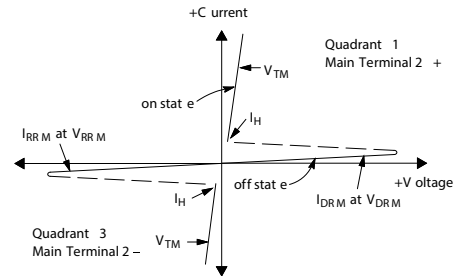

Figure 1. Peak Capacitor Discharge Current
- Ratings apply for $t_w = 1$ ms. See Figure 1 for I_{TM} capability for various duration of an exponentially decaying current waveform, t_w is defined as 5 time constants of an exponentially decaying current pulse.
- Ratings apply for $t_w = 1\text{ ms}$. See Figure 1 for I_{TM} capability for various durations of an exponentially decaying current waveform. t_w is defined as 5 time constants of an exponentially decaying current pulse.